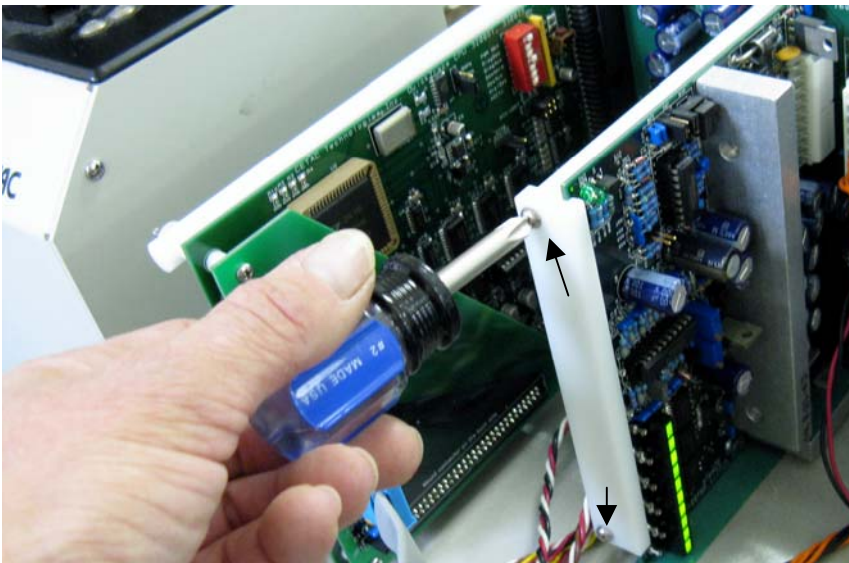

Fig.2
- 2) Using a #2 stubby Phillips screwdriver remove the two screws that hold the bracket to the Power Supply board. Remove the bracket and set aside. *Figure 2*